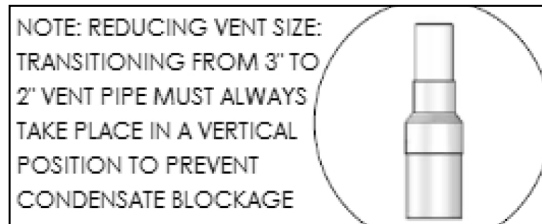

Figure 20 - Transitioning from 3" to 2" Vent Pipe
4. For 2" installations, install the reducing coupling in a vertical section of pipe. At least a 6" length of 3" pipe MUST BE INSTALLED before reducing to 2". See Figure 20.